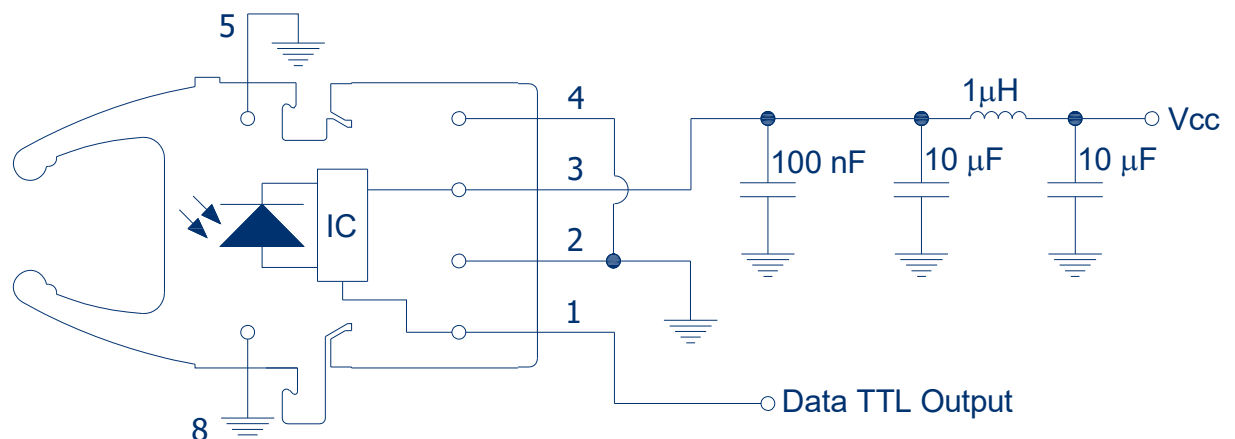

FIGURE 2
9. *Pin 4 is electrically isolated internally. Pin 4 may be externally connected to pin 1 for board layout compatibility with existing designs. Otherwise it is recommended pin 4 be grounded as in Figure 2*